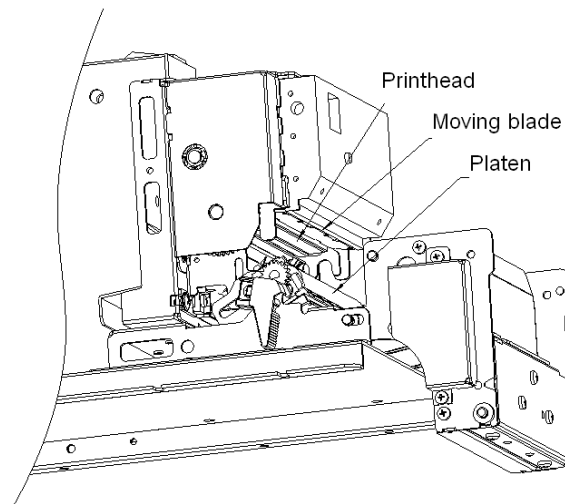

Fig. 5.1-3 Cleaning the Print head
4. Shown as in Fig.5.1-3, now you can view the printer from the downside of the print mechanism and find the Print head in the behind of the moving blade. Clean the Print head surface with alcohol cotton which should be twisted before the use;